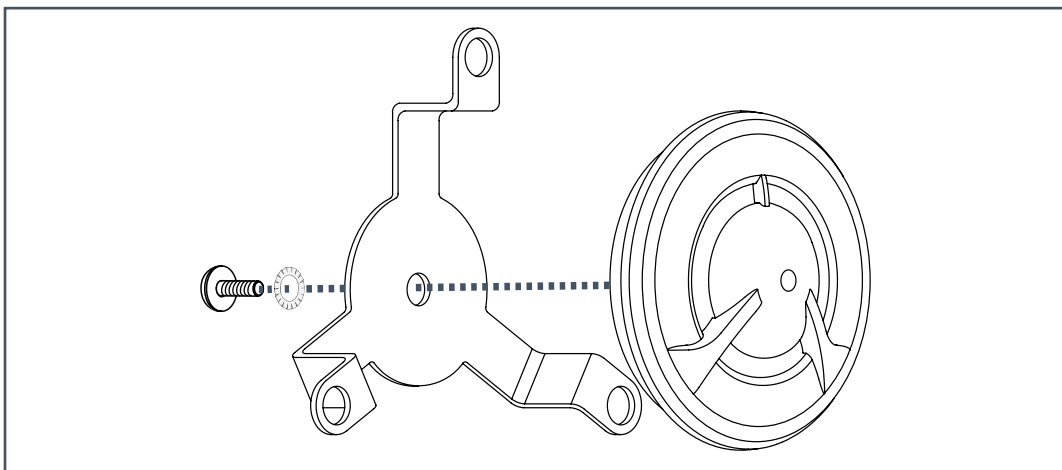

Fig. 30
11.2.1 Fasten the M3x5 mm screw as shown in the drawing (Fig. 30).